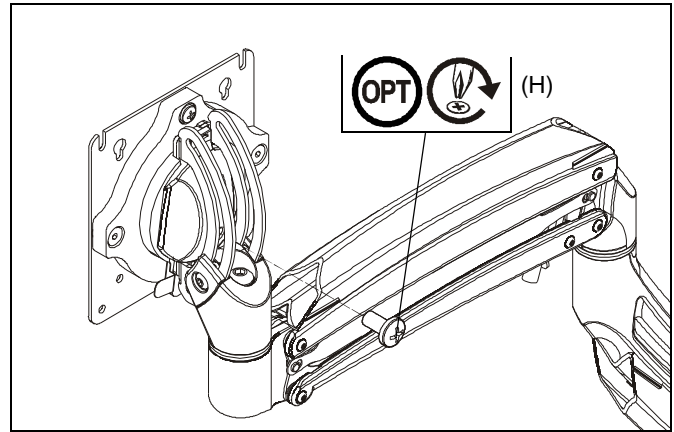

Figure 11
NOTE: In order to prevent display from being easily removed from mount using the quick release lever, install M4x4mm security screw (H) into lower hole on back of faceplate. (See Figure 11)